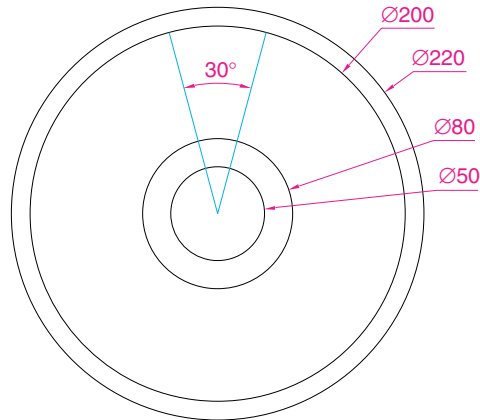
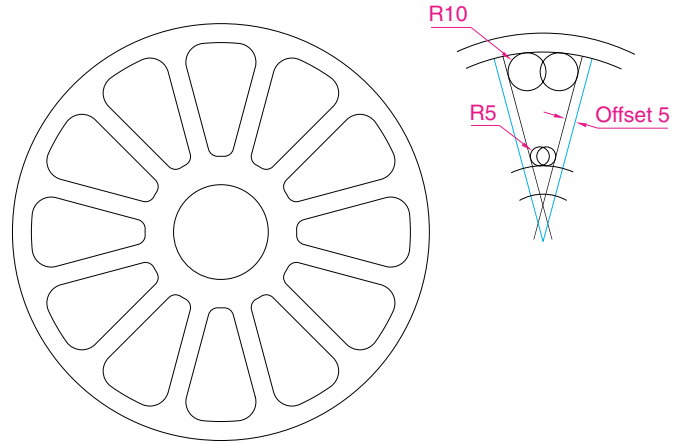

Fig. 5.49 Exercise 4 – circles and lines on which the exercise is based
Fig. 5.50 Exercise 4
4. Construct the circles and lines (Fig. 5.49). Using **Offset** and the **Ttr** prompt of the **Circle** tool followed by **Trim**, construct one of the outlines arrayed within the outer circle. Then, with **Polyline Edit**, change the lines and arcs into a pline of width = **0.3**. Finally array the outline twelve times around the centre of the circles (Fig. 5.50).